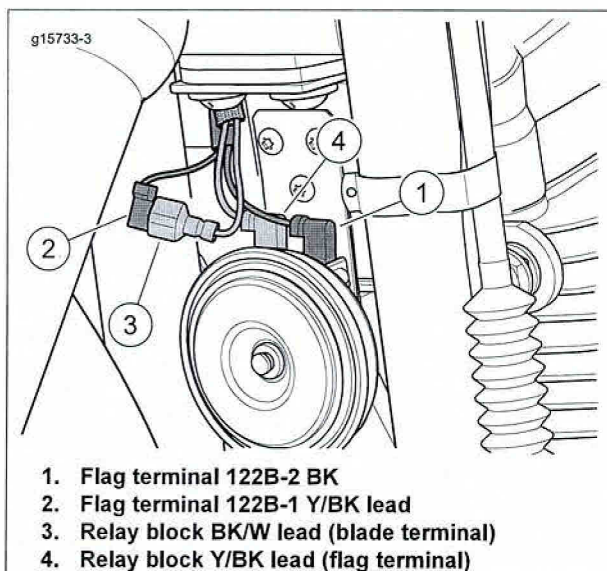

Figure 5. Relay Harness Horn Connections
See Figure 5. The BK lead [122B-2] (1) from the main harness remains connected.
- b. Connect the Y/BK lead (2) to the BK/W lead (3) from the relay harness.
- c. Connect the Y/BK lead (4) from the relay harness to (right side) horn terminal [122A-1].